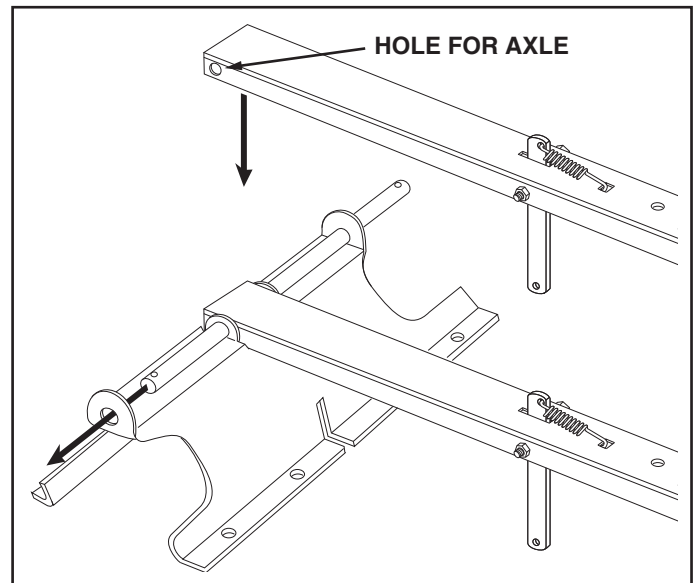

FIGURE 2
- Assemble the rear tongue to the wheel support by sliding the axle through the holes in the tongue and wheel support as shown in figure 2.